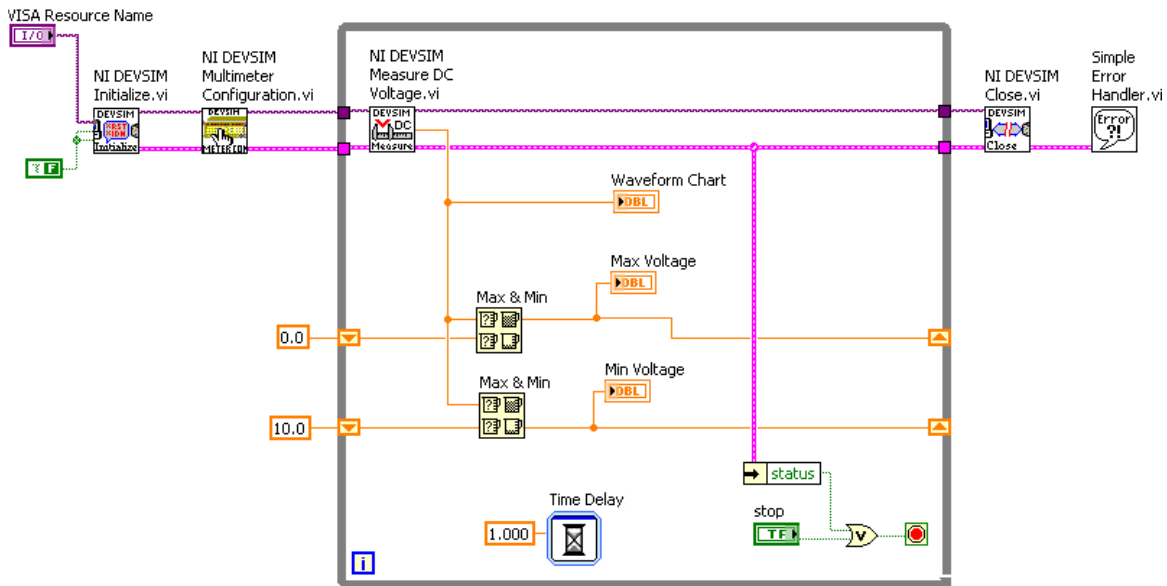

Figure 11.11
1. Build the block diagram shown in Figure 11.11.
- k. Wire the block diagram as shown in Figure 11.11.